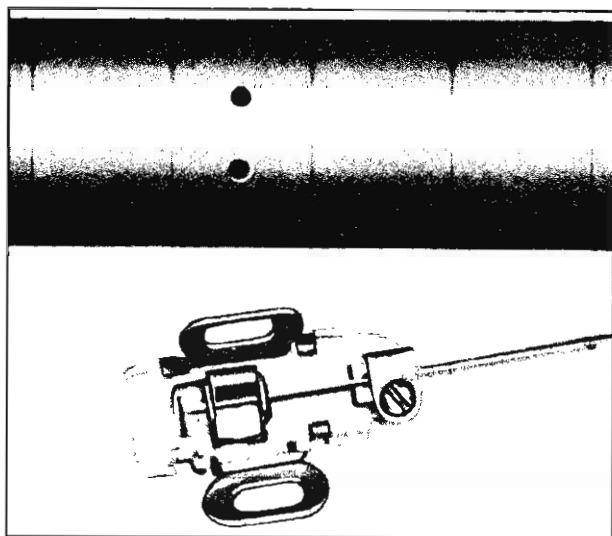

Fig. 34—Direction Signal Switch
16. Install direction signal "Boden" cable into direction signal switch and clamp as shown in Figure 34.
14. Install direction signal "Boden" cable into direction signal switch and clamp as shown in Figure 34.